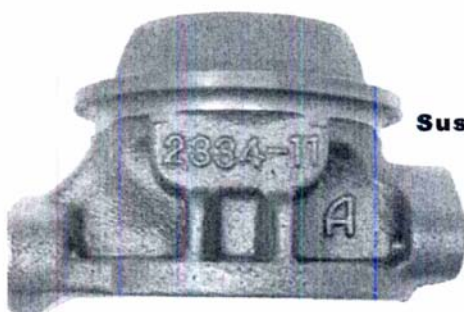

Figure 2 - Foundry Mark "Slanted A"
3. Using Figures 2, 3, and 4, identify the foundry mark located on the CHRA center housing as shown. Those with a circled "JT" are not affected and may proceed to the "Return to Service" section step 3 & 4. If a "slanted A" appears, continue with the DISASSEMBLY and CLEANING sections.